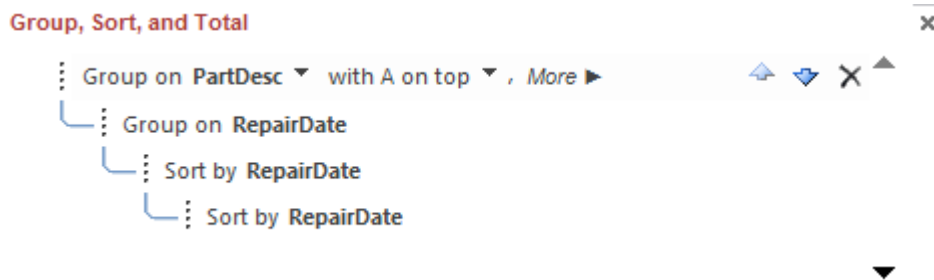
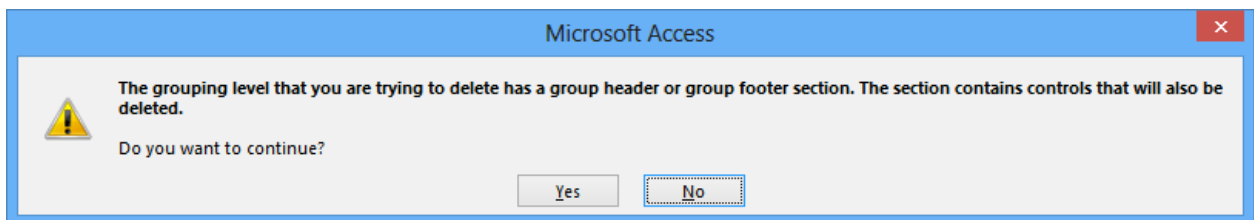
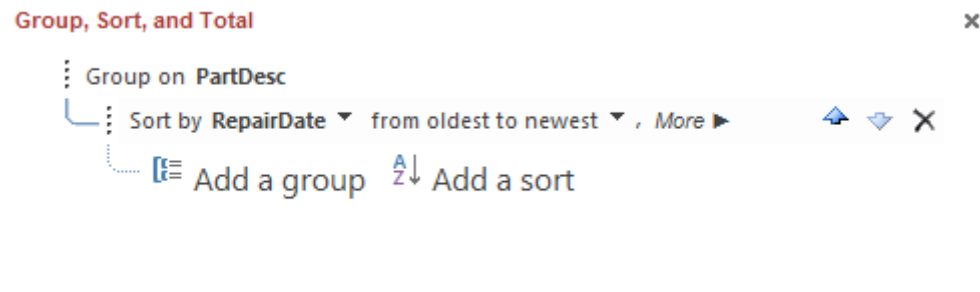

Figure 26: Sorting and Grouping Window before Deletions
Figure 27: Group Deletion Warning Dialog
Figure 28: Sorting and Grouping Window after Deletions
4. Delete RepairDate Header: Click **Design → Group & Sort** and there will be four entries as shown in Figure 26. Select the second and third entries, “RepairDate”, and delete them. Click **Yes** when the warning dialog appears (Figure 27). The Sorting and Grouping window will appear as in Figure 28. Close the window.